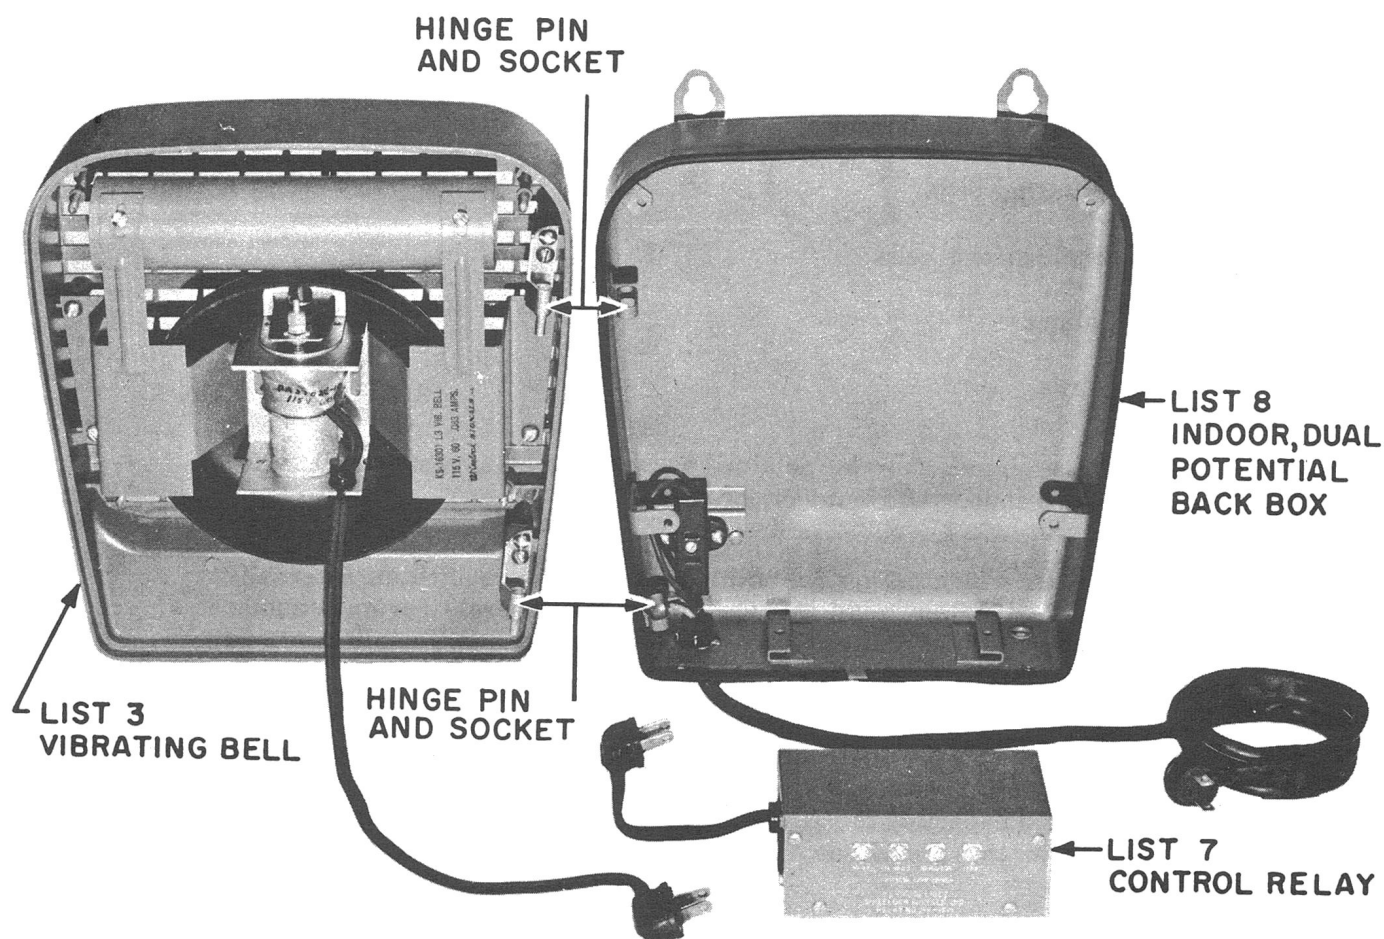

Fig. 1 — KS-16301 Signal
3.04 Each signal is equipped with a 2-conductor cord and plug and is shipped mounted to the grilled cover. This cord connects to receptacle of control relay or to power receptacle in back box (see Fig. 1).